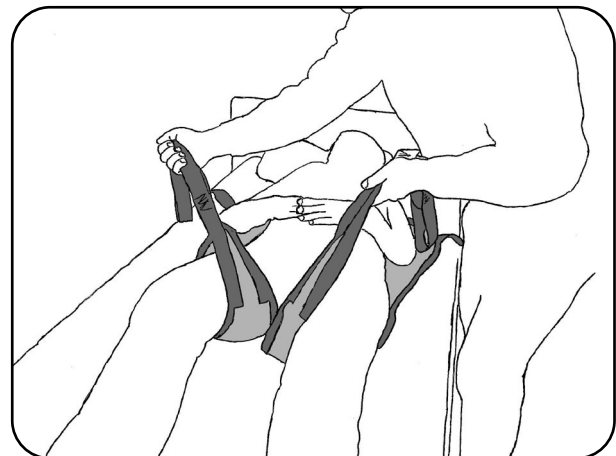

Fig. 9.2.03 - Leg supports positioned between the patient's legs
7. Now turn the patient back onto their back and arrange the leg supports between the patient's legs (Fig. 9.2.03). Make sure that the leg loops are the same length. The shoulder loops are now near the patient's right and left shoulders.